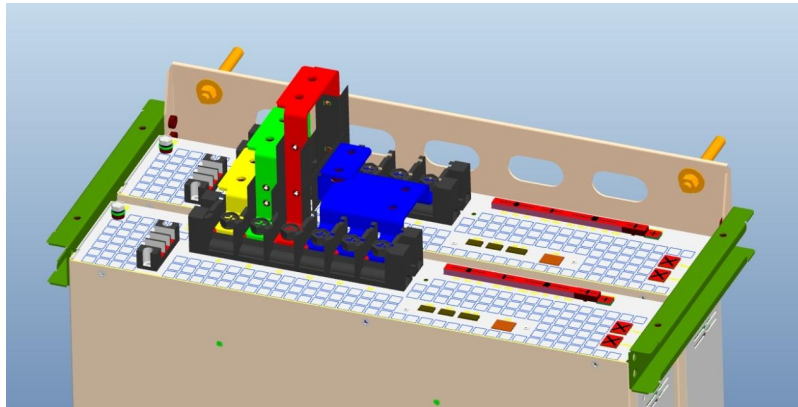

Figure 9
6、 Check the Figure 9 and fix the busbar and the terminal of the modules with the terminal equipped with screws to complete the installation of the busbar part;